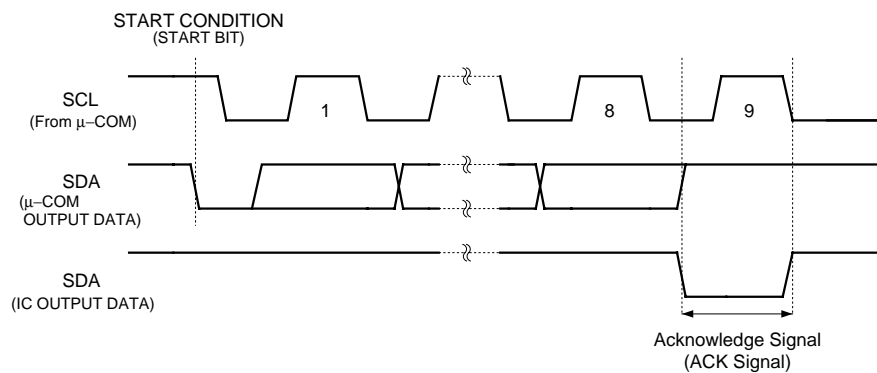

Fig.7 ACKNOWLEDGE RESPONSE FROM RECEIVER
- If an Acknowledge is detected, and no STOP condition is generated by the master, the device will continue to transmit the data. If an Acknowledge is not detected, the device will terminate further data transmissions and await a STOP condition before returning to the standby mode. (See Fig.7 ACKNOWLEDGE RESPONSE FROM RECEIVER)